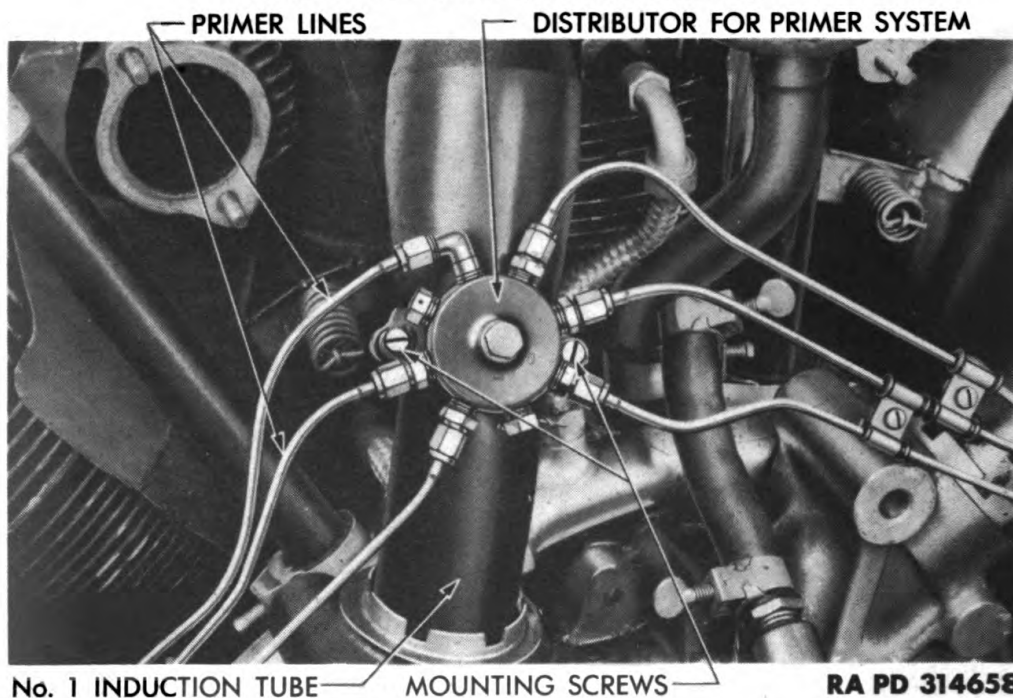

Figure 43 — Primer Distributor Bracket Mounted
d. Remove Primer System. Loosen connecting nut that holds each primer system line to cylinder head. Loosen clamp nuts, and remove clamps that hold each primer line to the fuel induction tube. Cut and remove safety wires. Remove two screws and washers which hold distributor assembly for primer system to No. 1 induction tube (fig. 43). Remove primer system from engine as an assembly.